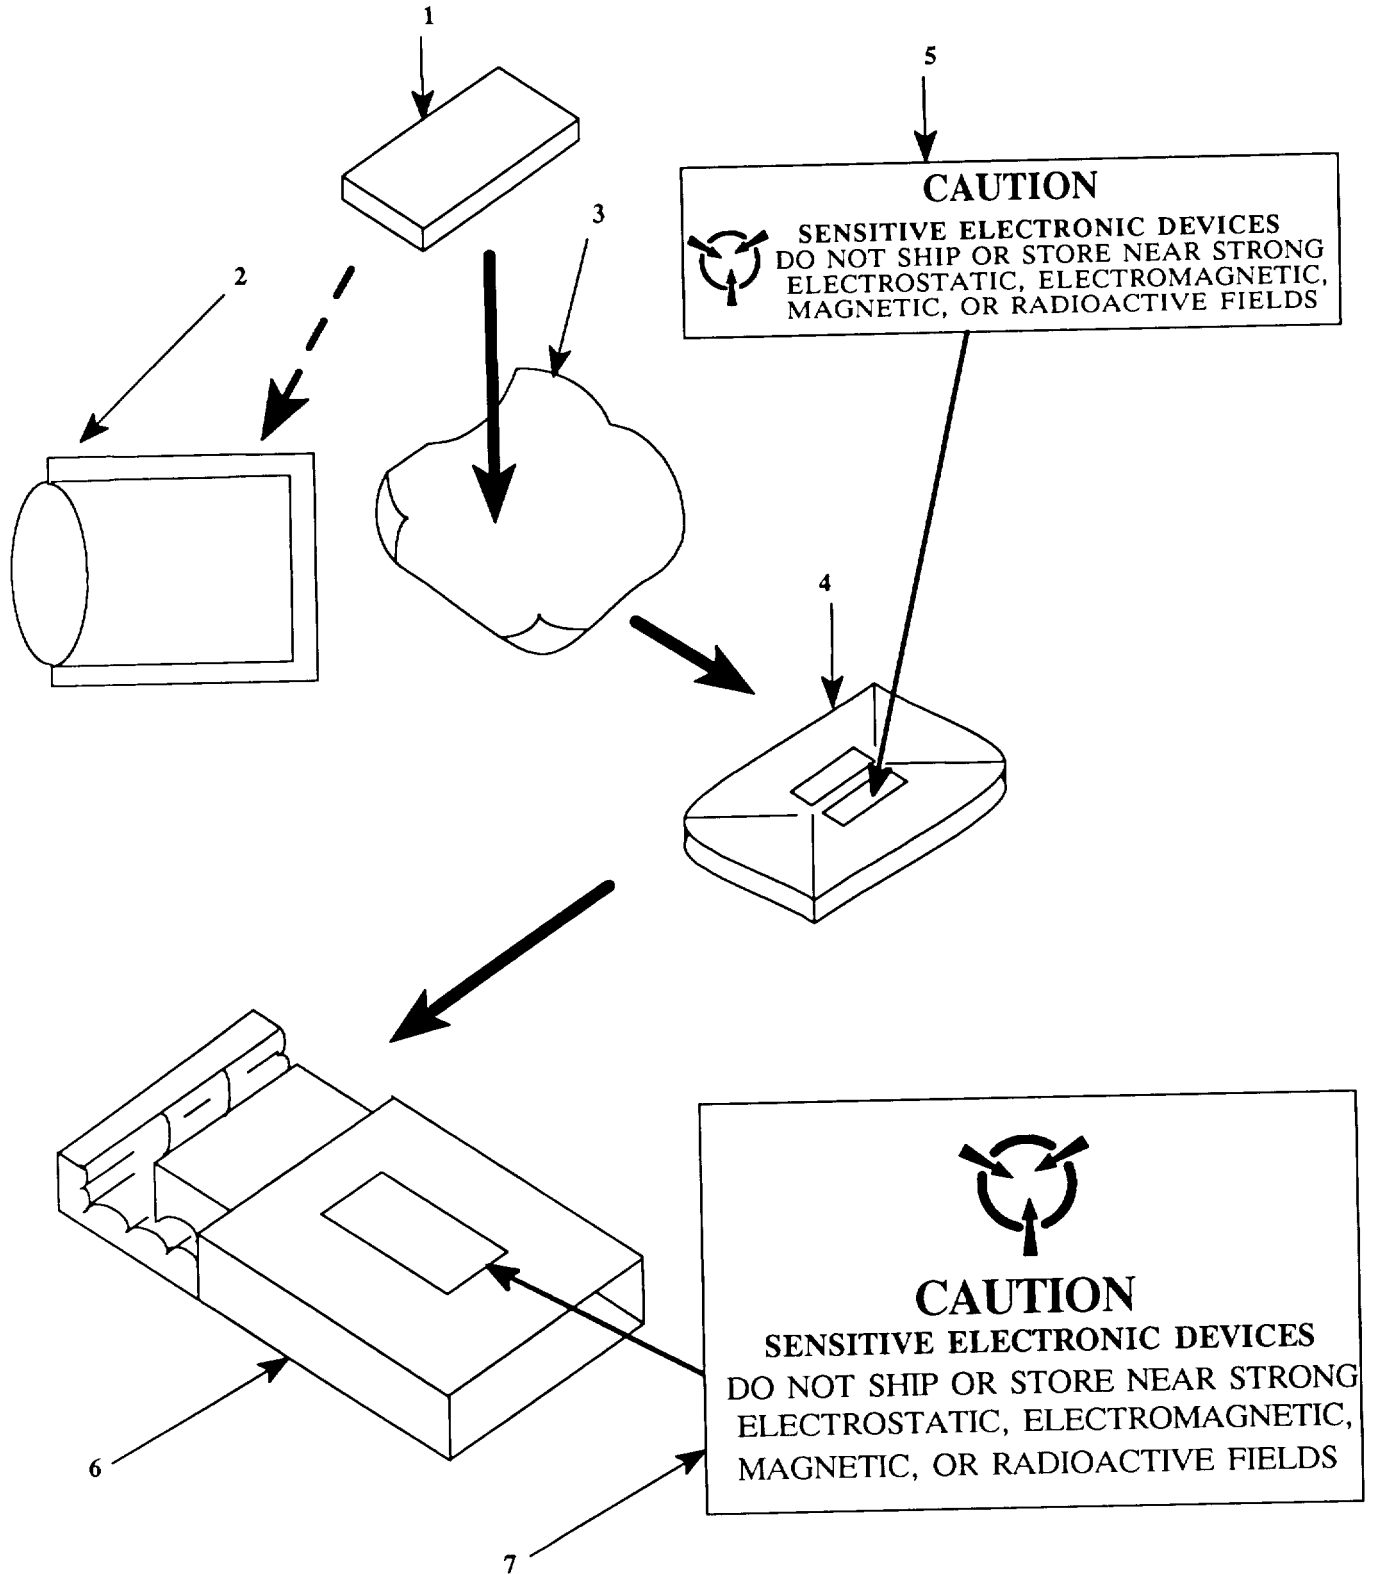

Figure 4-5. Packing Static Sensitive Modules
a. Module (1)	a. Place inside antistatic bag (2) or inside antistatic wrapping material (3). See figure 4-5.
b. Antistatic package (4)	b. Seal with adhesive tape. Attach "sensitive electronic device" unit pack label (5).
c. Antistatic package (4)	c. Place inside approved shipping container (6).
d. Shipping container (6)	d. Attach "sensitive electronic device" intermediate pack label (7).